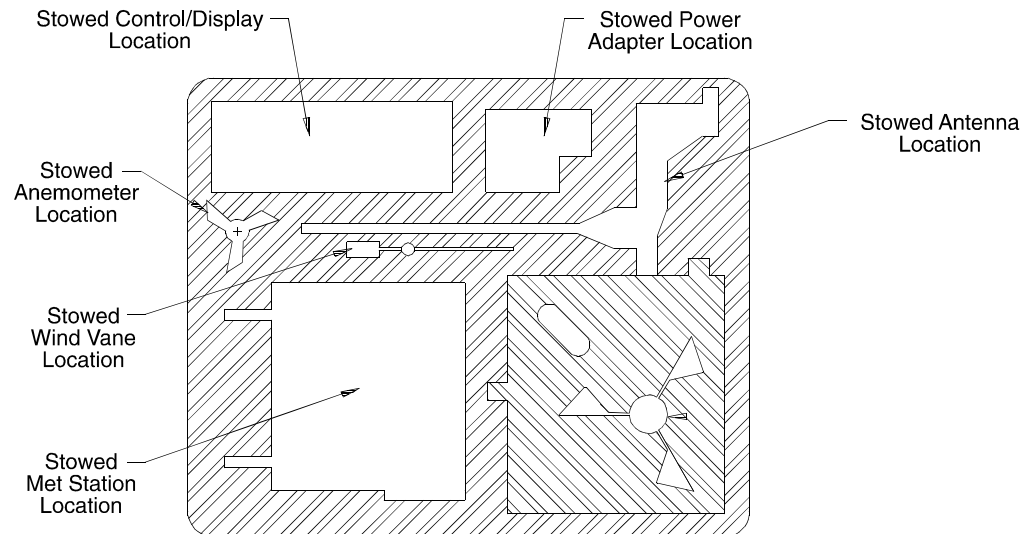

Figure 5.
- 3 Cutouts are also provided for a Control/Display, power adapter, and antenna. Stow them in the locations shown in **Figure 5**.
In addition to housing the battery, battery charger, and optional radios, each TAMS carrying case is fitted with pre-cut foam inserts to secure and protect the Met Station components during transport. **Figure 5** shows the inside of a case with cutouts. To stow the TAMS Met Station: